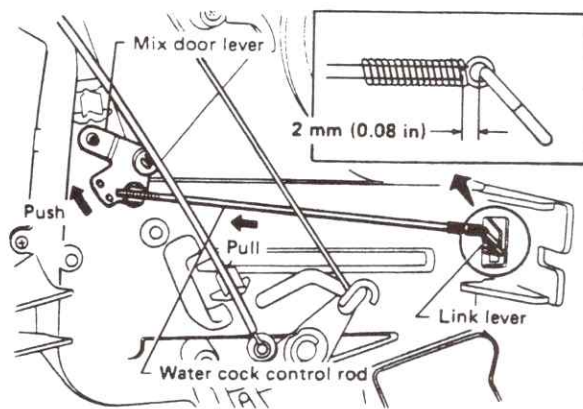

Fig. 11.11 Water cock control rod adjustment (Sec 32)
- 5 When adjusting the water cock control rod (refer to Fig. 11.11) disconnect the temperature control cable from the air mix door lever before the adjustment.